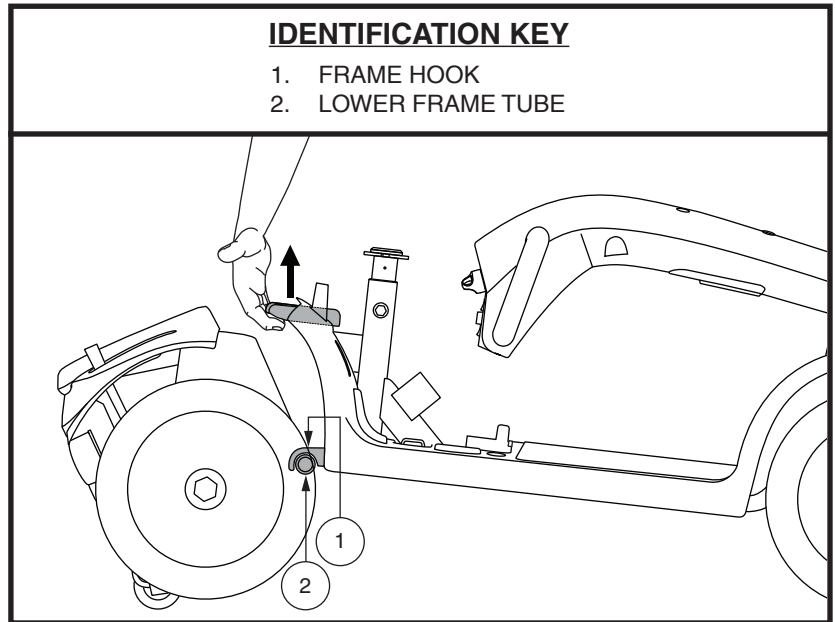

Figure 26. Frame Release Lever
3. Grasp and lift up on the frame release lever. See figure 26.
1. Position the front and rear sections of your scooter as shown in figure 26.